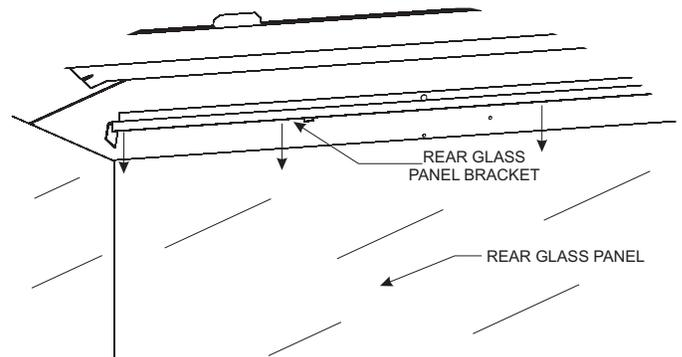

Figure 5
12. Once the Rear Glass Panel is vertical, install the other Rear Bracket over the top of the Rear Glass Panel. The Rear Bracket will be installed so the long flange (with holes) are visible above the glass panel and line up with the pilot holes in the rear of the firebox. **See Figures 5 and 6.**